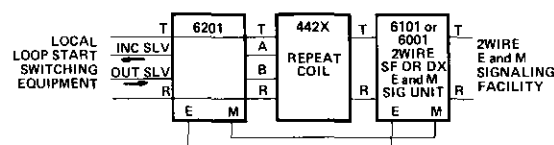

figure 2. Typical application, 2W-to-2W facility
2.07 The 6201 must be used in conjunction with an associated repeat coil (Tellabs 442X) or 4wire-to-2wire terminating set (Tellabs 4203). (The term set must incorporate A and B-lead inductors to ensure proper operation.) The term set or repeat coil derives the A and B signaling leads required by the 6201. The term set interfaces the 6201 with a 4wire E and M signaling facility and a repeat coil with a 2wire E and M signaling facility. (See figures 2 and 3.) Idle line termination is provided by the 6201 to prevent singing during idle circuit conditions.
2.08 Depending upon the length of the E and M facility to which the 6201 is applied, an associated E and M signaling device may or may not be employed to extend signaling over that facility. The associated signaling device may provide either SF (Tellabs 6101) or DX (Tellabs 600X) E and M signaling, as required. (See figures 2 and 3.) Normal E and M signaling states are used by the 6201: [E-lead: idle = open, busy = ground]; [M-lead: idle = ground, busy = battery].